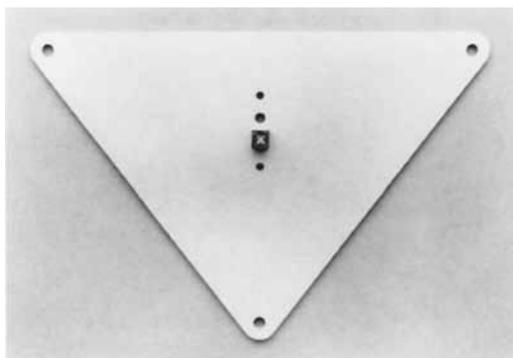
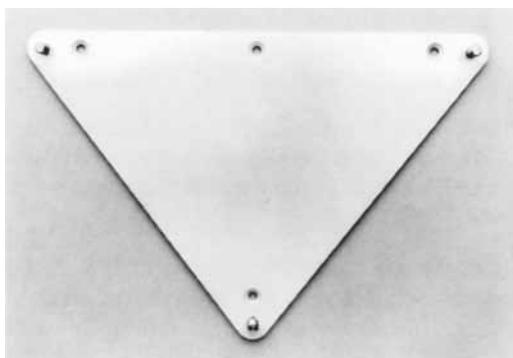

Figure 1
Figure 2
**Note:** These instructions are for placement of the standard wall plate (Figure 1). If you have the optional quick-release wall plate, it has a slightly modified configuration of holes (Figure 2) and you must follow these steps for installation: